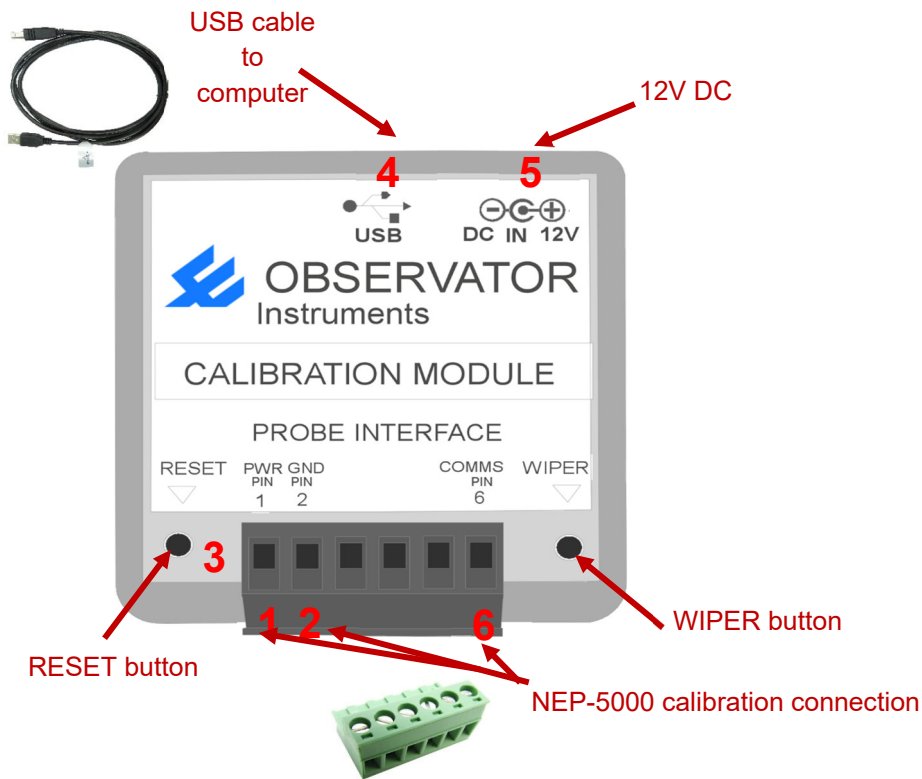

Figure 6.G: Bluebox calibration module
4. Connect to the calibration software”. Press reset when required to reset the communication (Figure 6.G: #3) with the sensor.